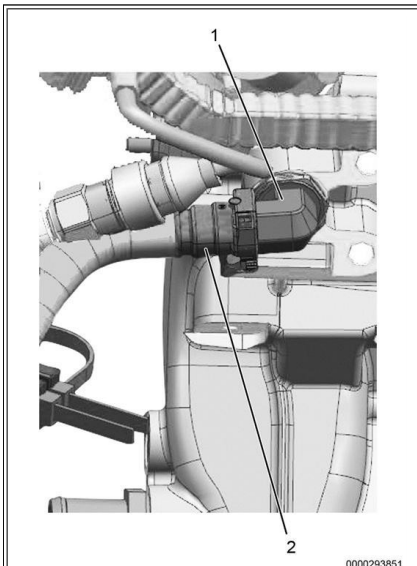

Figure 21: Coolant Deaeration Tank Supply Hose.
2. Remove DEF coolant supply hose (Figure 21, Item 2).
3. Remove 90-degree elbow fitting (Figure 21, Item 1).